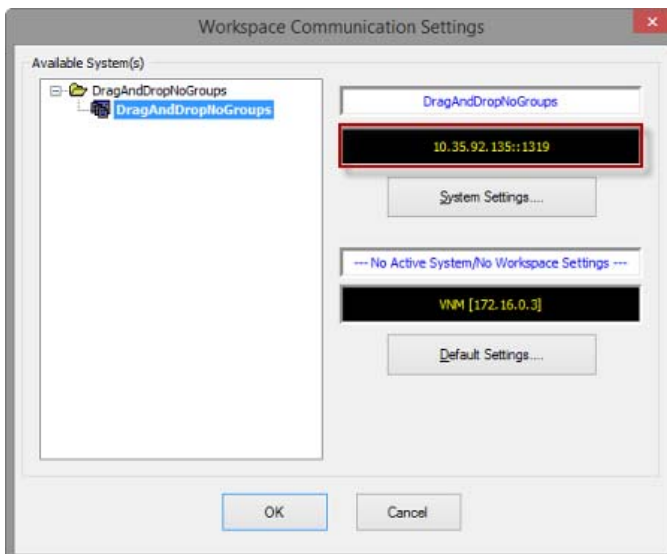

FIG. 139 Workspace Communication Settings dialog (new Master indicated as current Configuration)
- Click **OK** to close the *Communications Settings* dialog, and return to the *Workspace Communication Settings* dialog, which now indicates the newly selected configuration (FIG. 139).